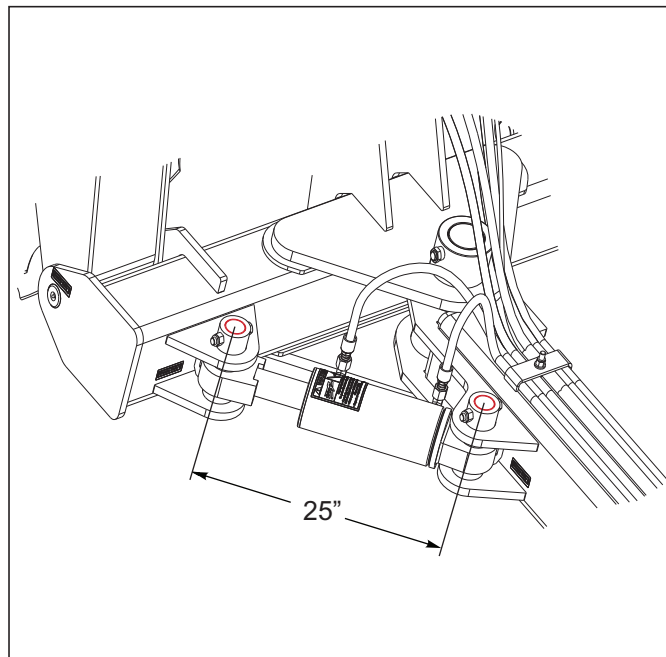

Figure 4-6: Side Draft Adjustment
2. During normal operation the side draft feature should be initially set at a dimension of 25" from pin-to-pin See Figures 4-6.